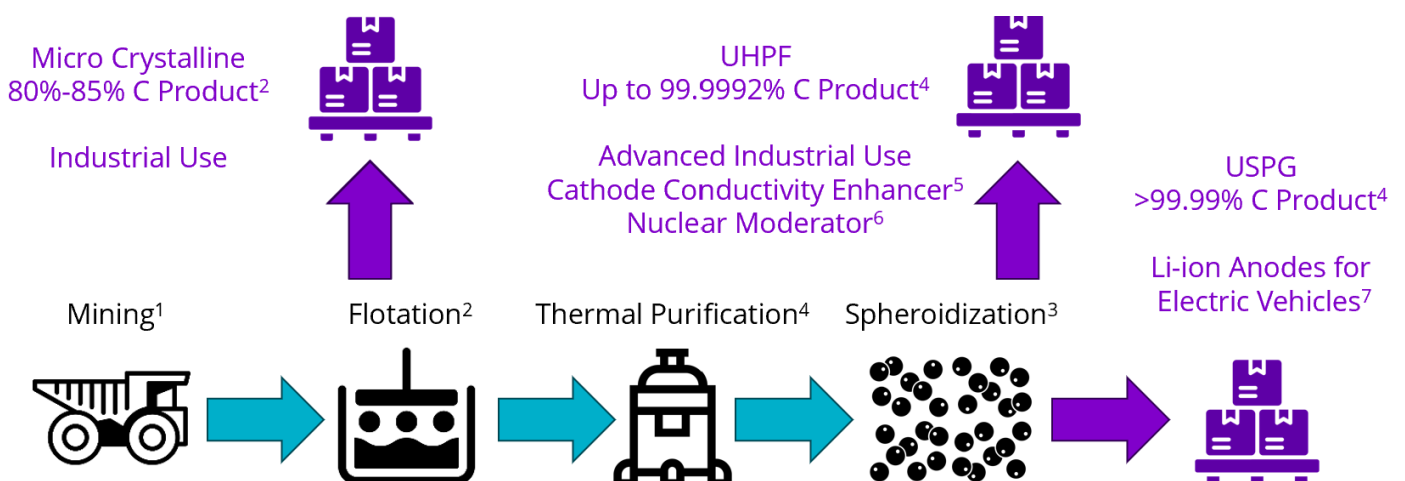

Figure 4 - Sarytogan Proposed Schematic Flowsheet and Product Mix.
The bulk flotation concentrate was produced in Australia at 80 to 85% Carbon (C) (refer ASX Announcement 13 November 2023). Some of this is planned for downstream purification for use in advanced industries such as batteries and nuclear (Figure 4). However, to fully utilise the proposed production capacity and giant Sarytogan Graphite Deposit, the concentrate will also be sold 'as-is' to traditional markets including for use as a lubricant in industrial and military applications (e.g. dry lubricants in Figure 1).
Sarytogan plans to produce three product types (Figure 4).